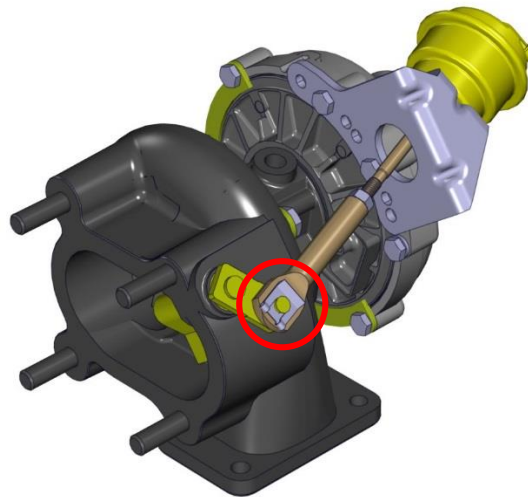

Figure 4: Waste Gate Circlip
3. Install a new the spring loaded circlip E4A-41-100-801. Refer to figure 4
2. Install a new the spring loaded circlip E4A-41-100-801. Refer to figure 4.